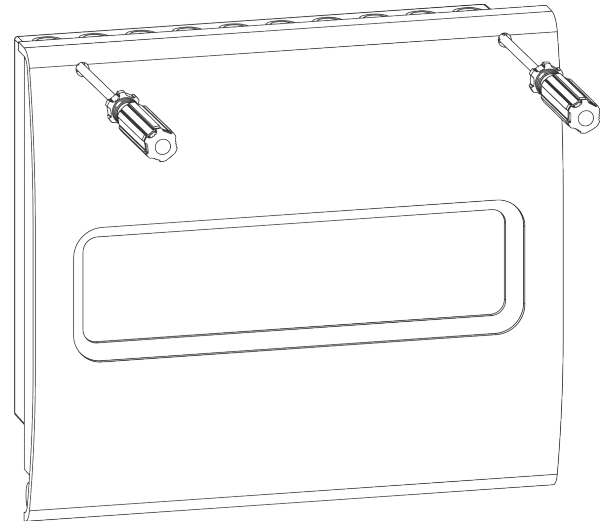

Figure 13: Removing the Front Cover
- To remove the front cover of the panel, unscrew the two retraining screws located at the top corners of the panel, see Figure 13.
- Fit the door back onto the back box by following the reverse instructions in Figure 13